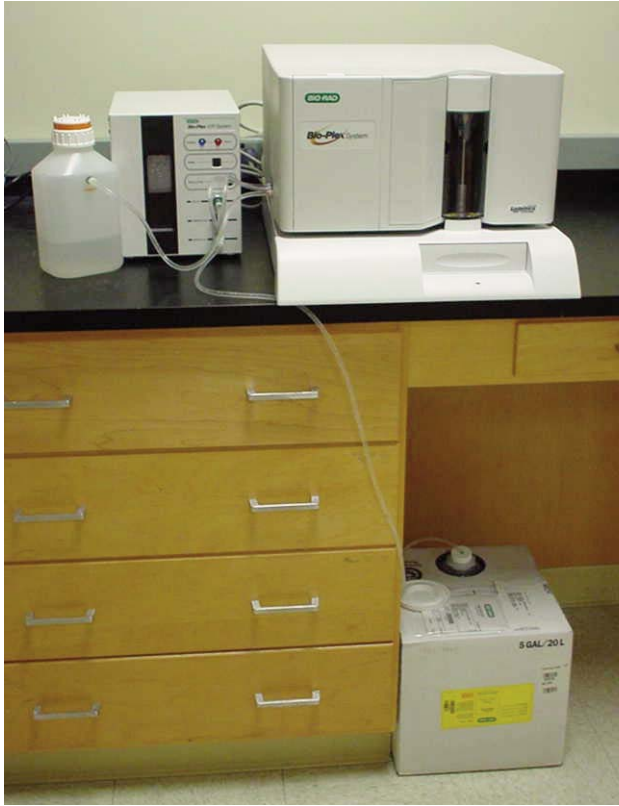

Fig. 20. HTF setup.
- Place the HTF next to the sheath fluid connection on the array reader. Do not place the HTF on top of the array reader. Place the sheath cube 3–4 ft below the level of the array reader and HTF. Figure 20 shows a typical setup.